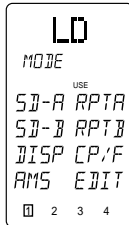

Figure 1
1. If the RC2000 Mk II is in another mode (**NAME**, **LEARN**, etc.), press the operation mode button ① with the tip of a paper clip, until the USE indication appears.
2. Press one of the function buttons ⑨ to change to another component's commands, such as **LD** (refer to Figure 1). If you wish to change the receiver or preamplifier's input selection to the desired source, press the function button twice.